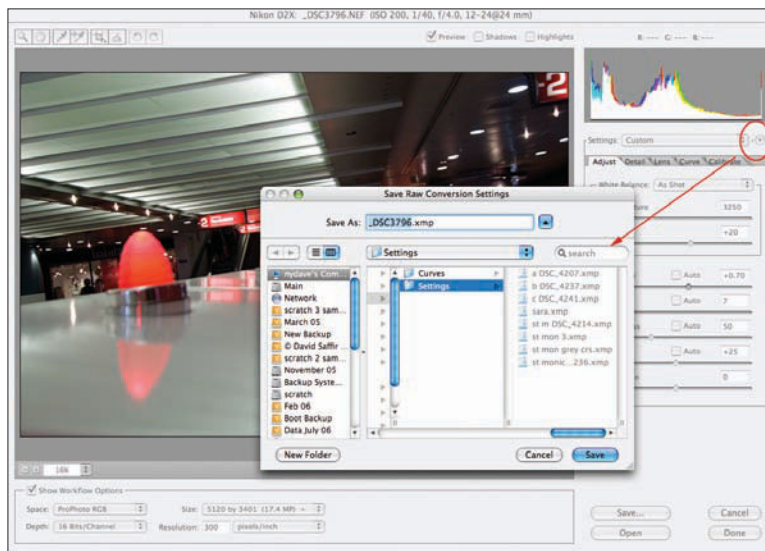

Figure 4.21
1. First, with the image open in Photoshop, choose File>Page Setup. Choose the correct printer, paper size, and whether you want landscape or portrait orientation (see Figure 4.21).